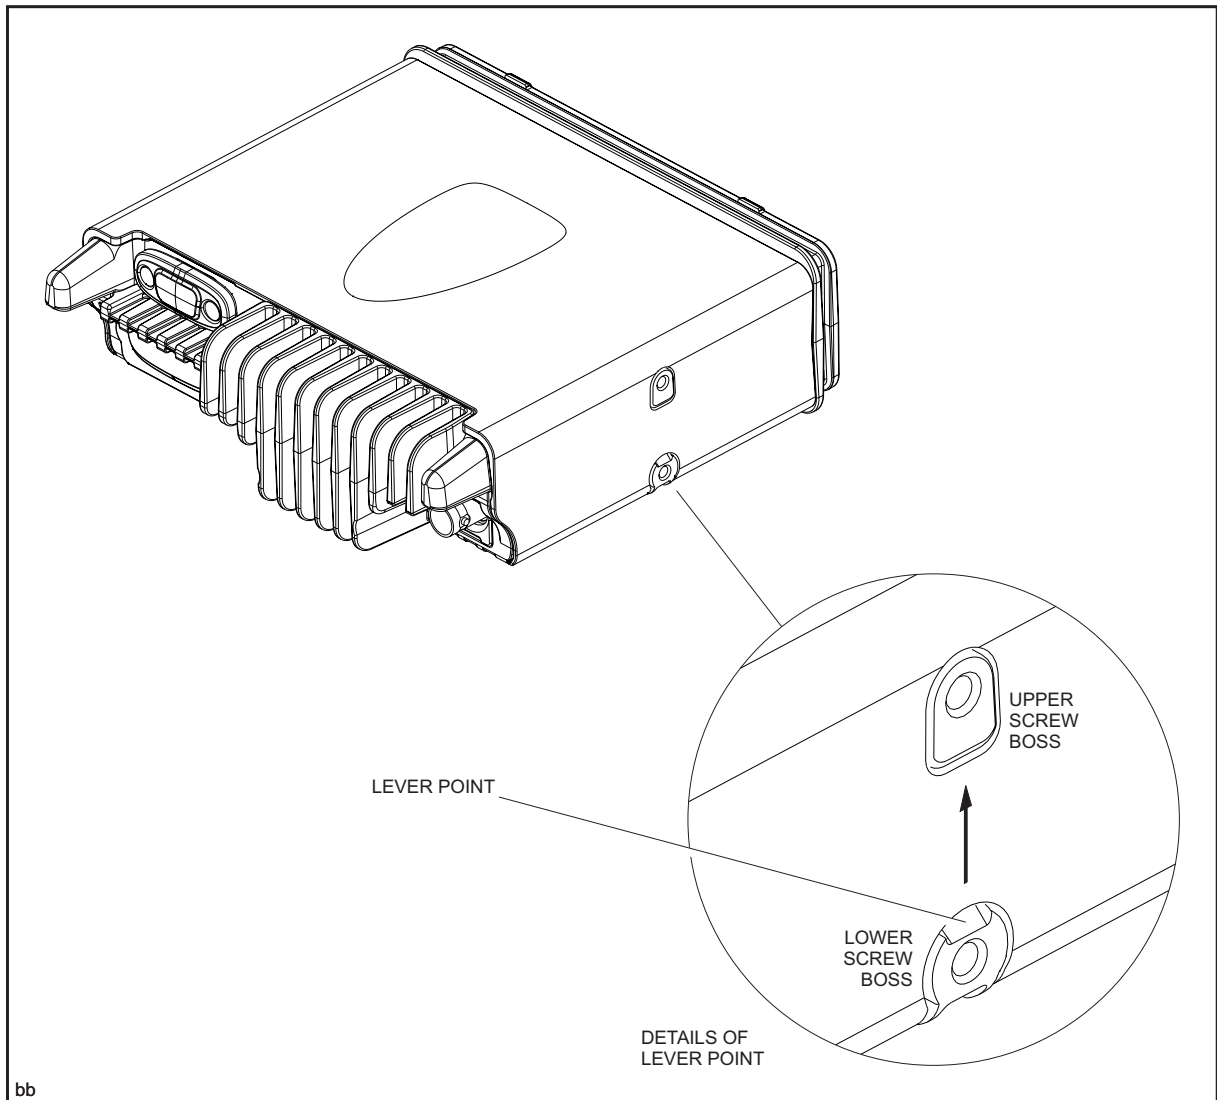

Figure 3.5 Lever points for removing the cover of the radio body
1. Note the two screw bosses on each side of the chassis. The cover clips to the underside of each upper boss. Also note the two points where the cover should be levered off the radio body. As shown in Figure 3.5, each lever point is a slot above the lower screw boss.